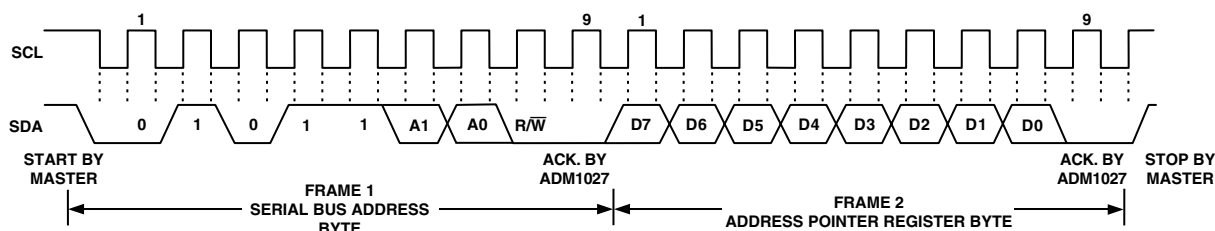

Figure 7. Writing to the Address Pointer Register Only
1. If the ADM1027 address pointer register value is unknown or not the desired value, it is first necessary to set it to the correct value before data can be read from the desired data register. This is done by performing a write to the ADM1027 as before, but only sending the data byte containing the register address, as data is not to be written to the register. This is shown in Figure 7.
2. If the address pointer register is known to be already at the desired address, data can be read from the corresponding data register without first writing to the address pointer register, so Figure 7 can be omitted.